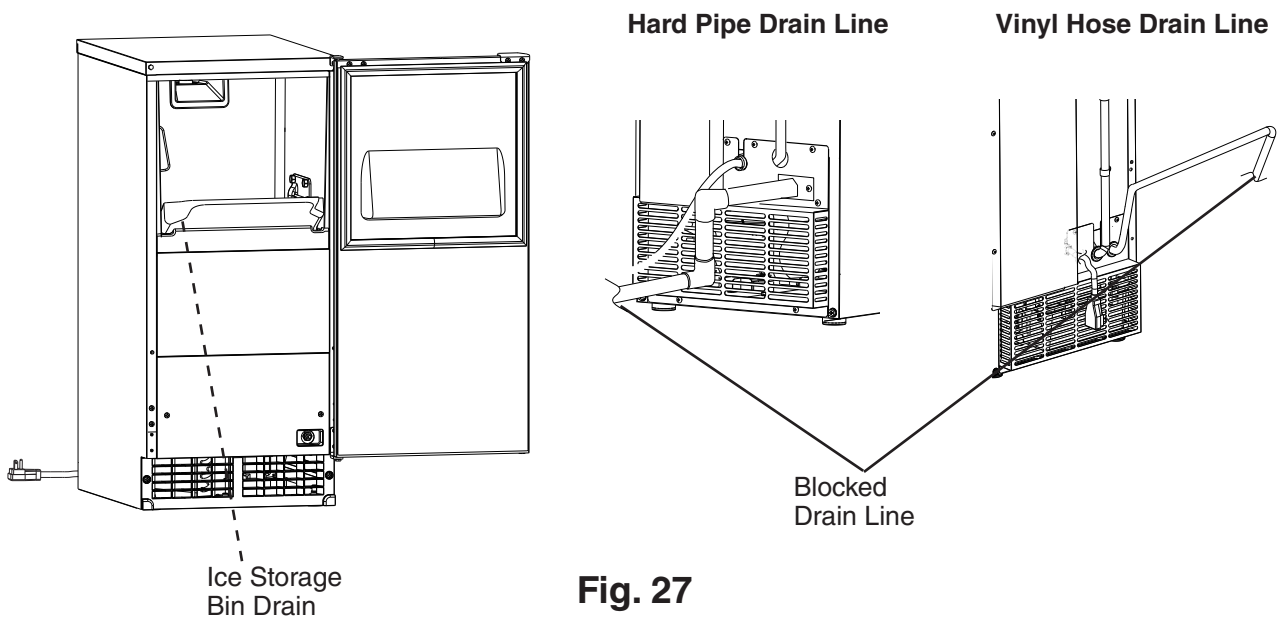

Fig. 27
- 13) Check the drain pump back-up safety switch: Pour another 24 to 30 oz. (710 to 890 ml) of water into the appliance's ice storage bin, then completely restrict/block the appliance hard pipe drain line or the appliance vinyl tubing drain line while the drain pump is operating. See Fig. 27. Pour more water into the appliance's ice storage bin until the appliance turns off. The drain pump will continue to operate. Check for leaks.